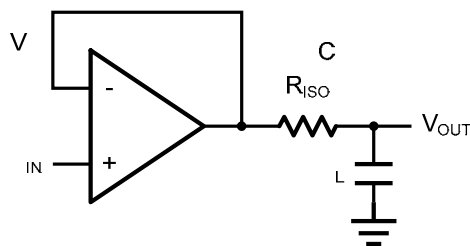
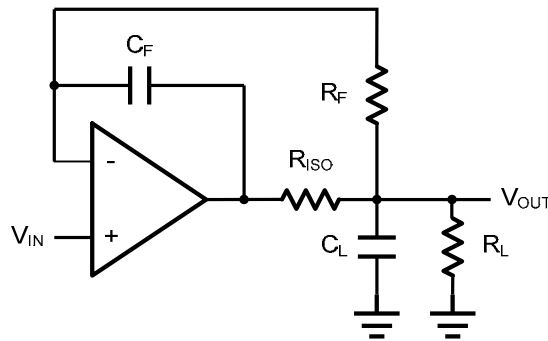

Figure 2 Indirectly Driving a Capacitive Load Using Isolation Resistor
Figure 3. Indirectly Driving a Capacitive Load with DC Accuracy
The LMV3XX family is optimized for bandwidth and speed, not for driving capacitive loads. Output capacitance will create a pole in the amplifier's feedback path, leading to excessive peaking and potential oscillation. If dealing with load capacitance is a requirement of the application, the two strategies to consider are (1) using a small resistor in series with the amplifier's output and the load capacitance and (2) reducing the bandwidth of the amplifier's feedback loop by increasing the overall noise gain. Figure 2 shows a unity gain follower using the series resistor strategy. The resistor isolates the output from the capacitance and, more importantly, creates a zero in the feedback path that compensates for the pole created by the output capacitance.
The circuit in Figure 3 is an improvement to the one in Figure 2. R_F provides the DC accuracy by feed-forward the V_{IN} to R_L . C_F and R_{ISO} serve to counteract the loss of phase margin by feeding the high frequency component of the output signal back to the amplifier's inverting input, thereby preserving the phase margin in the overall feedback loop. Capacitive drive can be increased by increasing the value of C_F . This in turn will slow down the pulse response.